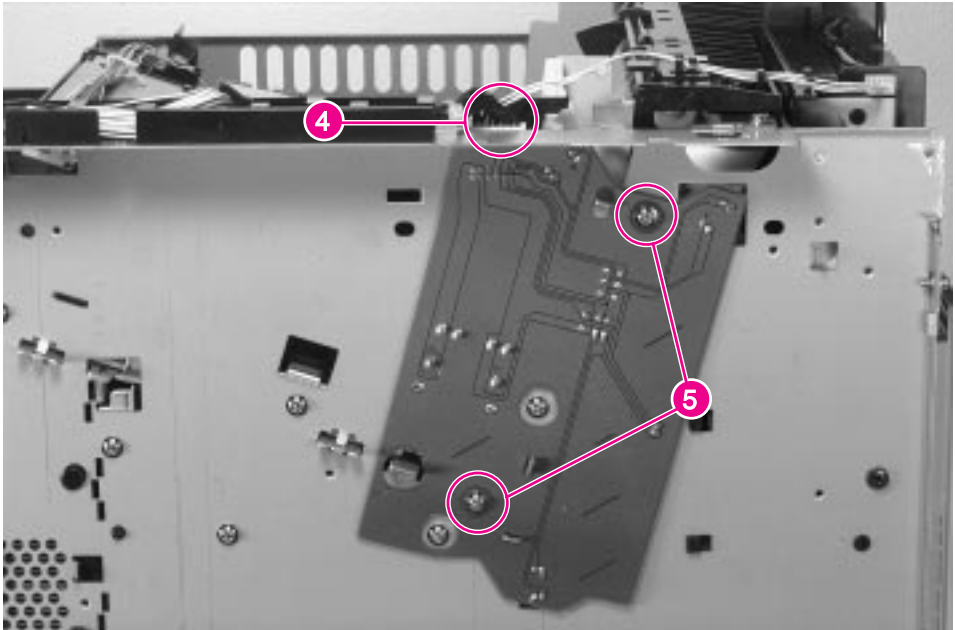

Figure 6-37
- 5 Unplug the connector (figure 6-37, callout 4).
- 6 Remove 2 screws (figure 6-37, callout 5), and unplug the connector on the back side of the PCA.